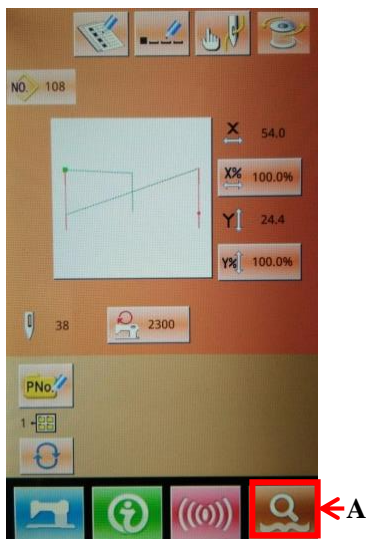
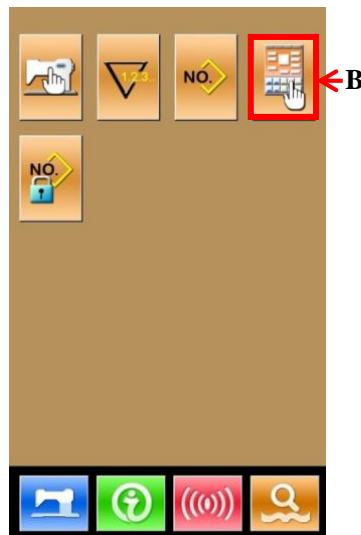

Figure 4.1.1 Main Interface
Figure 4.1.2 System Setting
(1) After booting, without any operation, click the system setting button at A in the initial work main interface (see Figure 4.1.1) to enter the system setting interface (see Figure 4.1.2).